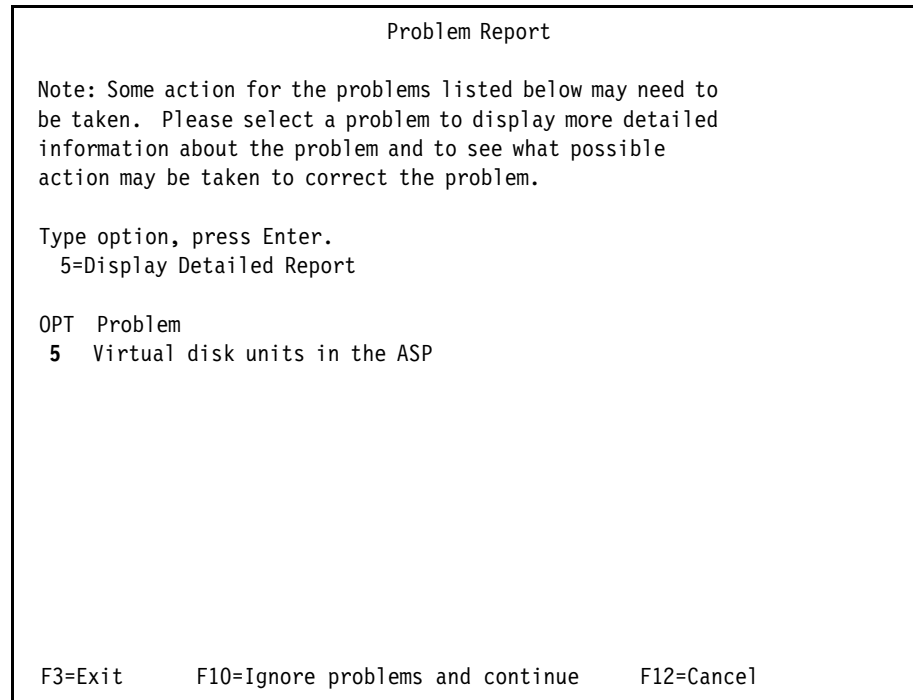

Figure 16-53 IBM i DST Problem Report for Virtual disk units in the ASP
11. At the Problem Report screen for Virtual disk units in the ASP, we select option **5=Display Detailed Report** for demonstration purposes to view an important warning message as shown in Figure 16-53.